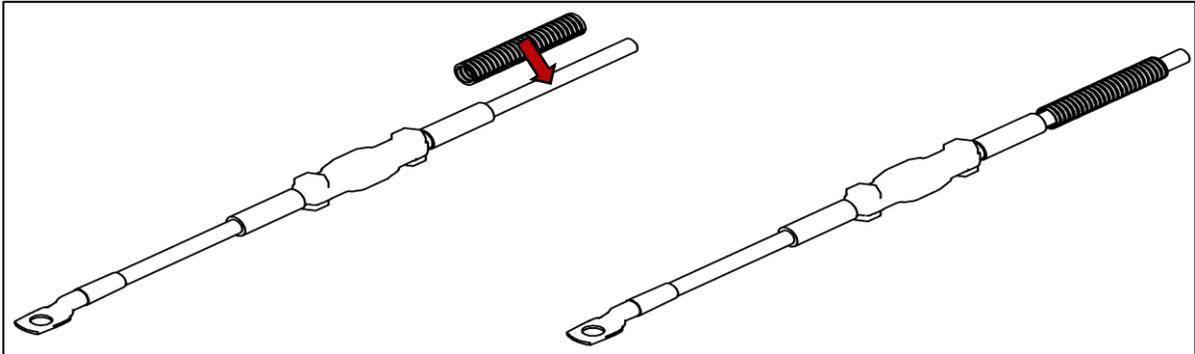

Fig. 19
- Insert the positive cable (25 mm² red) (“power unit cable”) for the power supply into a length of slit corrugated tubing (see Fig. 19).